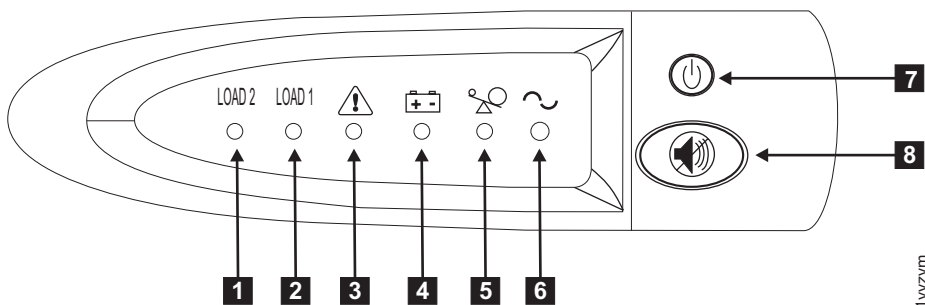

Figure 321. 2145 UPS-1U front-panel assembly
12. To turn on the 2145 UPS-1U, press and hold the on/off button ( **2** in Figure 321). On some versions of the 2145 UPS-1U, you need a pointed device, such as a screwdriver, to press the on/off button. The 2145 UPS-1U undergoes a self-test, taking approximately five seconds, before the power-on indicator **1** and the load indicators ( **7** and **8** ) light up permanently to indicate that the 2145 UPS-1U is supplying power to the SAN Volume Controller. The 2145 UPS-1U begins to charge its battery while in normal mode.